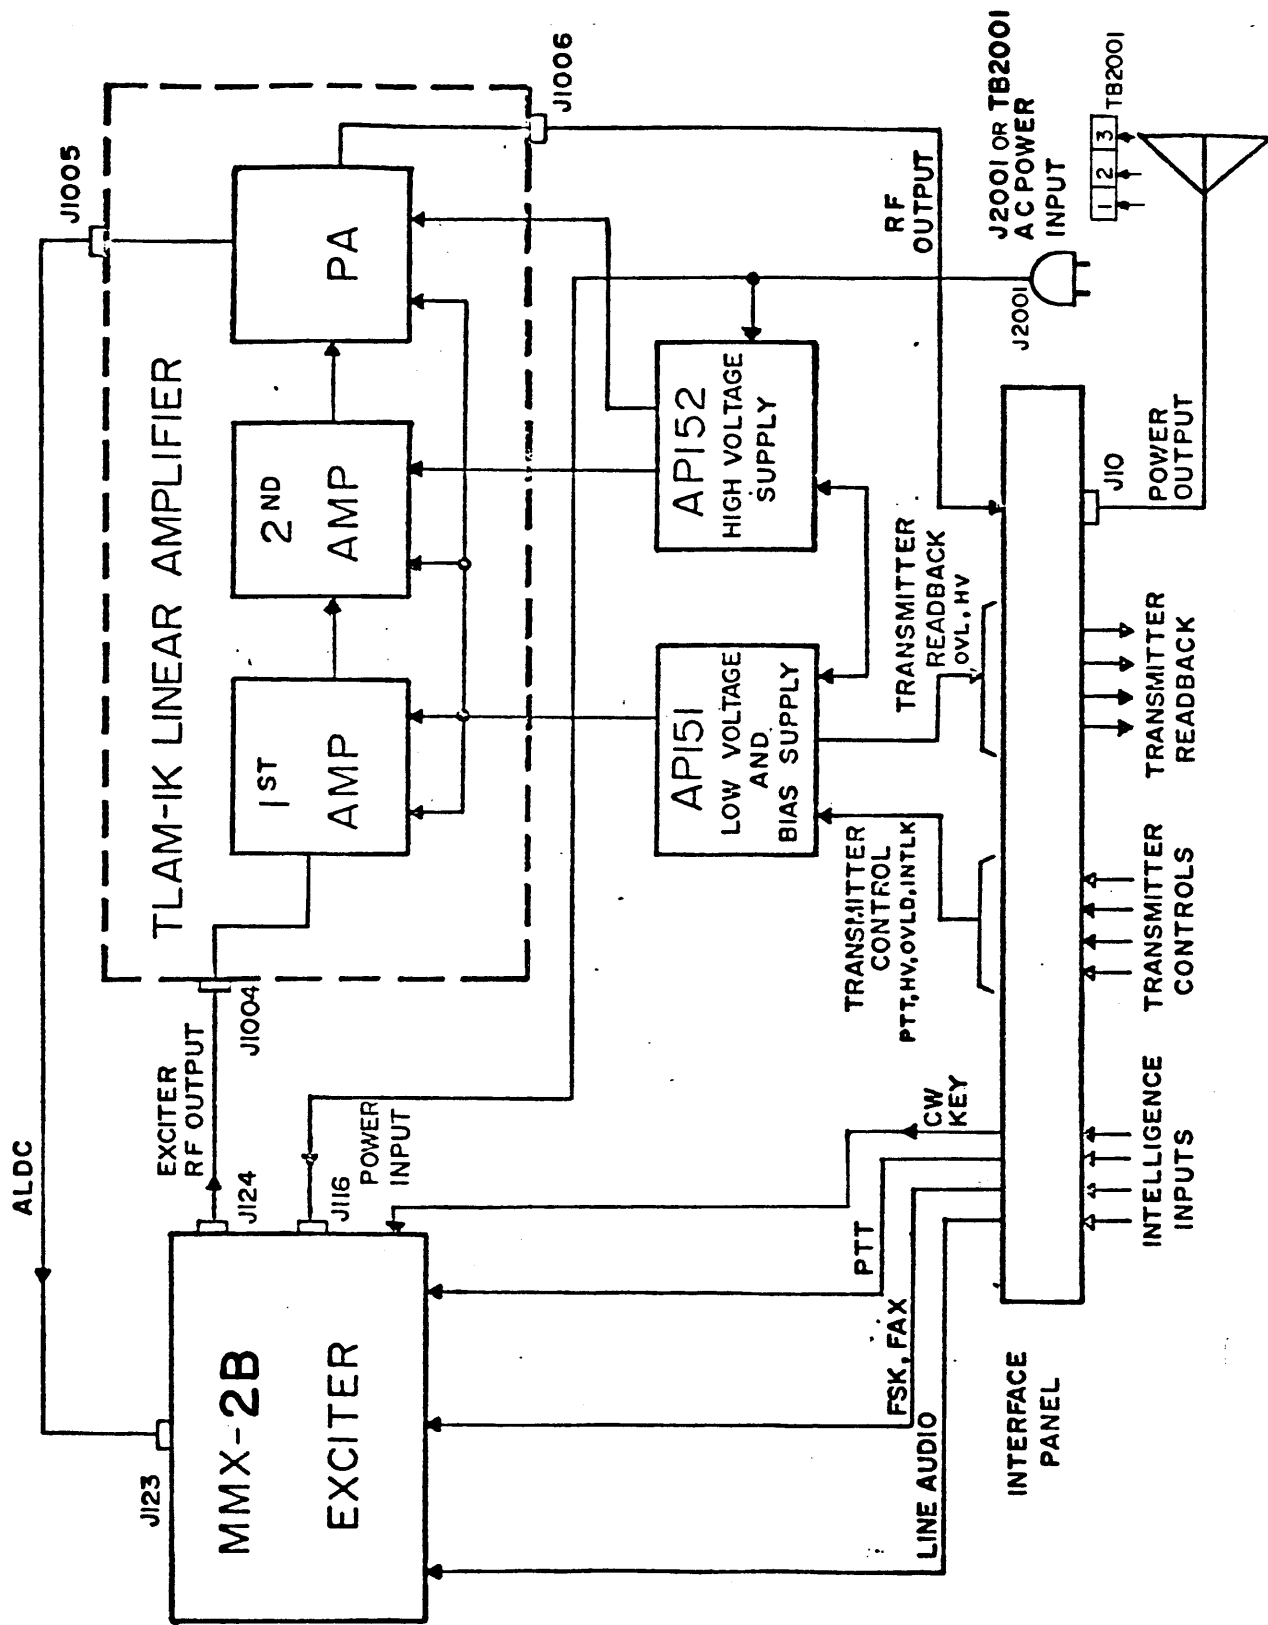

Figure 4-1. HFTM-1KJ2B Overall Block Diagram
Figure 4-1 is an overall block diagram of the HFTM-1KJ2B transmitter. Power input of 115/230 vac, 50/60 hz is applied via J2001 or TB2001 to the AP152 high voltage power supply and to the MMX-2B exciter.
- a. Overall block diagram (Section 4, figure 4-1)